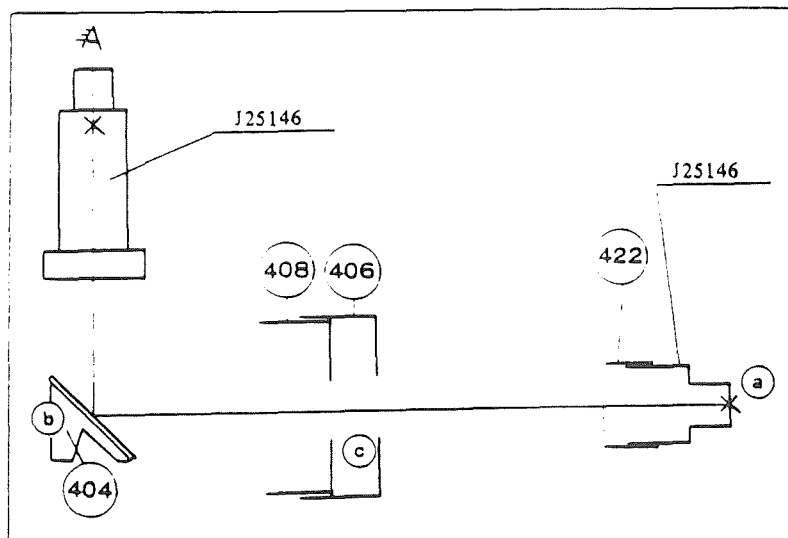

Fig. 49
- 3) Bringing the part (A) (Fig. 6) onto the position without the lens, make sure of the correct positions of the filament ((a)) and mirror ((b)), viewing through the eyepiece of collimator. (Fig. 49).
- 1) Take off (427), (429), (G2), (G3), and set the tool J25147. (Fig. 49).